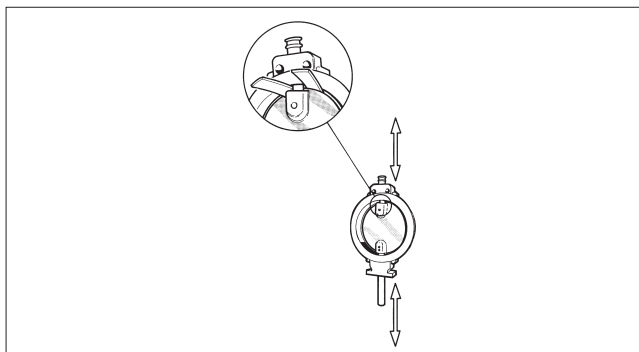

Fig. 15 Protecting the disc during disassembly and assembly
- Drill the holes carefully to the centre of the pins (14). Choose a drill 0.2-0.5 mm smaller than the diameter of the pin.
- Detach the screws (26) and the blind flange (10) and remove the gasket (18).
- Place rubber strips or other protection between the disc edge and the body and remove the shafts (see Fig. 15).
Place the disc horizontally on a surface so that the flat side of the disc lays against the surface. Lift the body around the disc so that the shaft bores are aligned with the bores in the disc. Protect the disc (see Fig. 15).